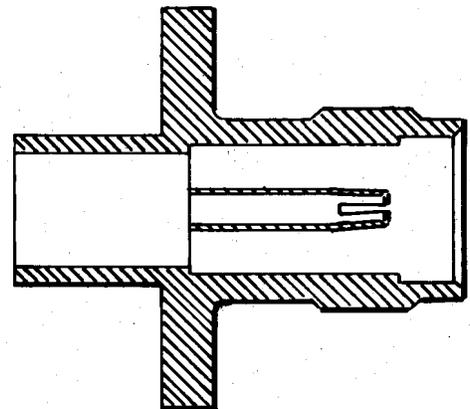

Fig. 2—KS-20265, L2 Connector
- (b) **KS-20265, L2:** The KS-20265, L2, (Fig. 2) is provided with a center contact arranged to accept a 0.141 diameter semirigid coaxial cable. The mounting flange for the L2 is approximately 1/2-inch square.